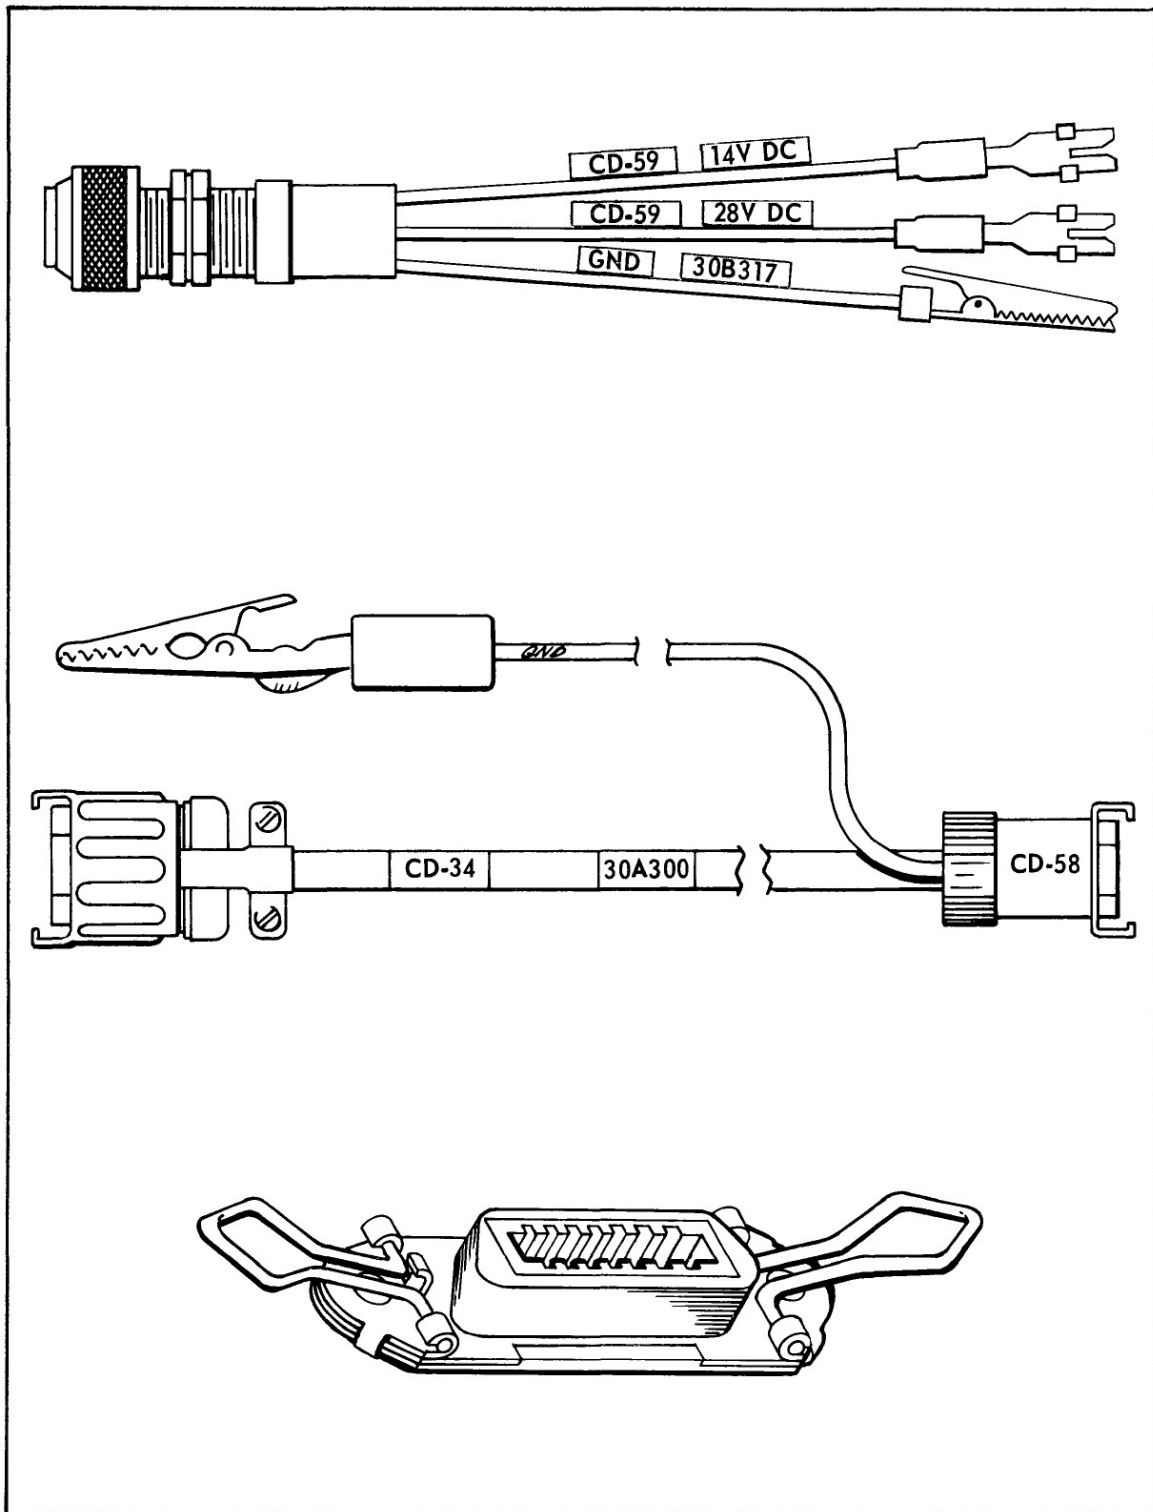

Figure 9-1. Glide Slope Coupler Test Cables and Jumper Plug
9-3. GLIDE SLOPE CABLES. Given in this paragraph are the additional items which are used for testing the Glide Slope Coupler. (Refer to Figure 9-1)
- c. Glide Slope Coupler Cable, Mitchell P/N 30C291 (Piper P/N 752 010). This is the same cable used for installation in the airplane and is not shown in Figure 9-1.